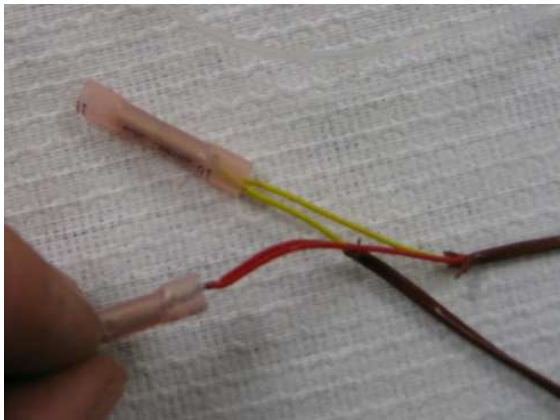

Fig. 3: Twist thermocouple wires together and insert into the same end of a crimp connector
2. On the thermocouple, twist the yellow wires together and the red wires together and insert into the same end of the connector and crimp (Fig. 3).